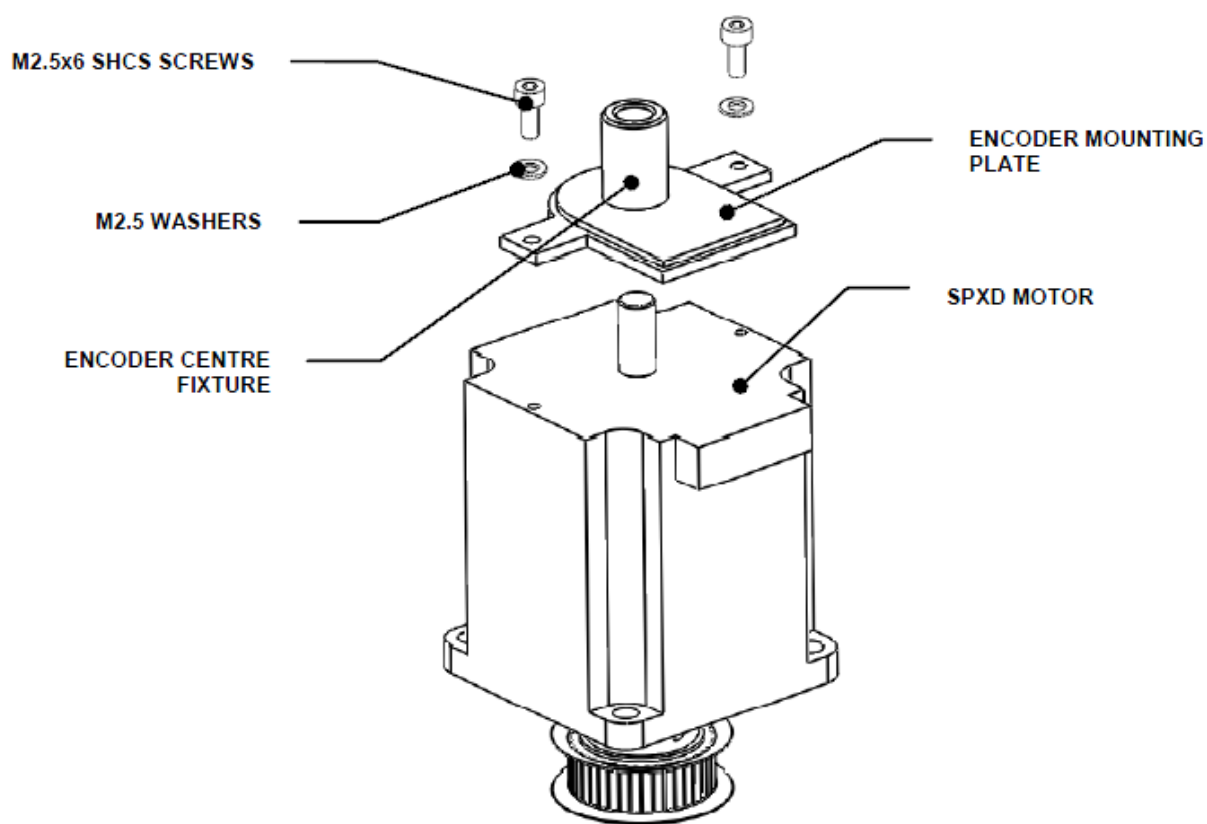

Figure S-5: Attaching the Encoder Mounting Plate
2. Attach the Mounting Plate for the Encoder, to the motor with the Encoder Centre Fixture 6.35mm (P24FIX007) using two M2.5x6 SHCS Screws and two M2.5 Washers and Loctite 425. Ensure that the mounting plate is centralized around the motor back shaft as shown in Figure S-5.